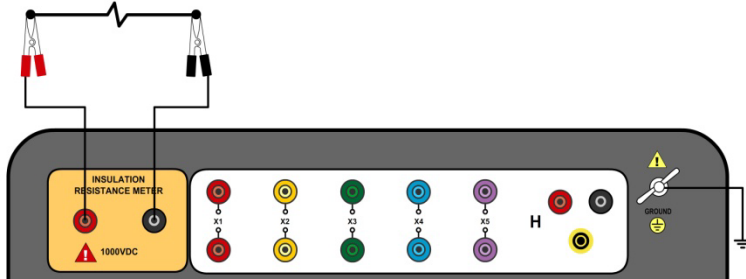

Figure 14. Connections for Stand-alone Insulation Resistance Measurement Mode
- a. Make connections per Figure 14, 15, or 16 below:
For connections shown in Figure 14, the resistance value is measured between the positive and negative terminals.